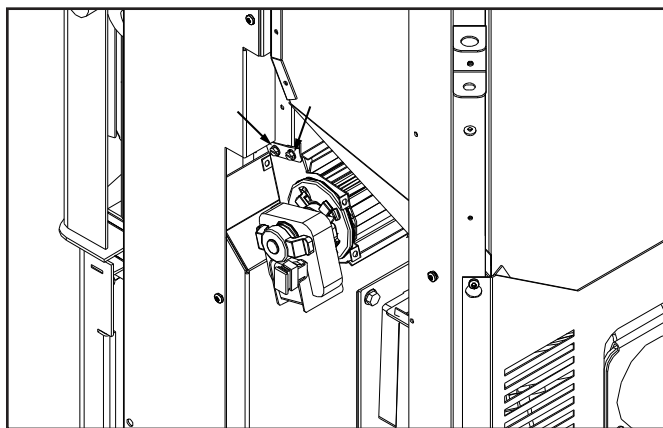

Figure 31: Behind the right cab panels.
3. Slide the fan into place between the bracket (see Figure 31 & 32).
4. Using a flat head screwdriver or a  $\frac{1}{4}$ " socket fasten the fan in place with two (2) screws on each side.